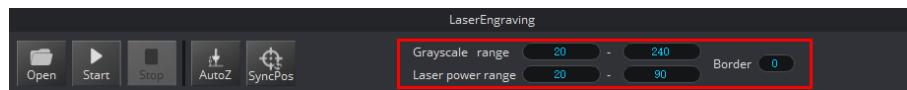

Figure 5.97 Set the grayscale range, laser power range, and border
**Step 3** Set the **Grayscale range**, **Laser power range**, and **Border**, as shown in Figure 5.97. For details, see Table 5.11.